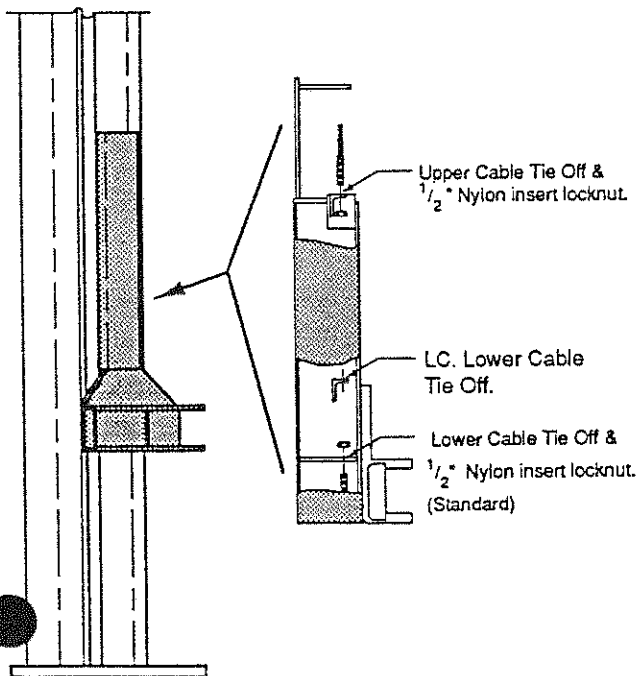

Fig. 22
**21. Final Adjustments:** Raise lift to check equalizer cable tension. Below carriage, grasp adjacent cables between thumb and forefinger, with about 15 lbs. effort you should just pull the cables together. Adjust at upper tie-offs Fig. 22.